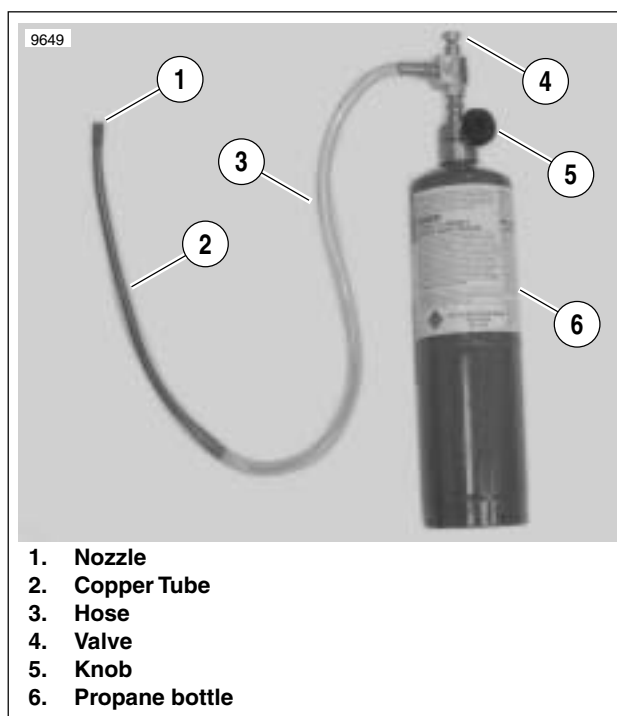

Figure 4-107. Leak Tester
3. See Figure 4-107. Turn knob (5) counterclockwise to open propane bottle (6).
5. See Figure 4-107. Push valve (4) to release propane. Tone of engine will change when propane enters source of leak.